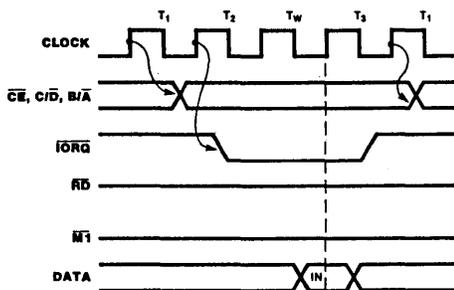

Figure 16. Write Cycle
**Write Cycle.** Figure 16 illustrates the timing and data signals generated by a Z-80 CPU output instruction to write a data or control byte into the SIO.